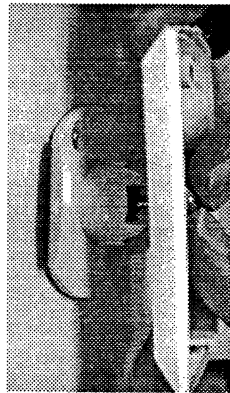

Figure C.5. Connecting Swivel Bracket to Mounting Plate
3. Using # 6 x 5/8" metal screw mount mounting plate to the swivel bracket (see Figure C.5). Tighten until snug, do not fully tighten screw at this time.